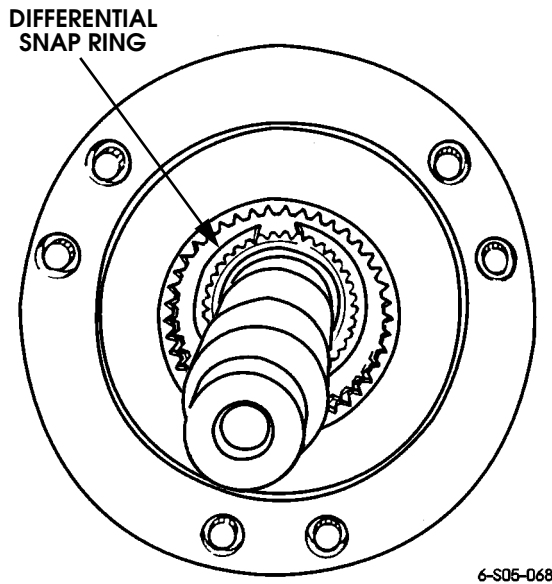

Figure 5-148: Differential Snap Ring Installation
12. Install differential snap ring (Figure 5-148).